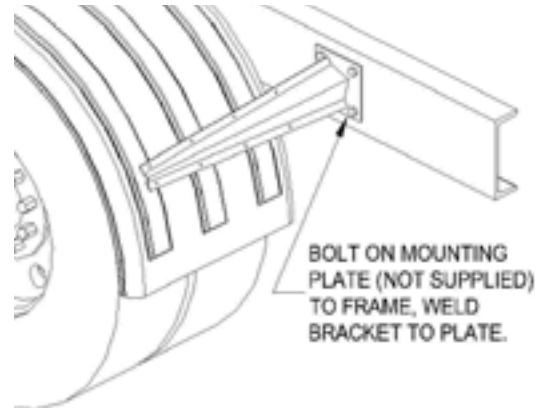

Figure 6
- B. For weld on brackets, you can bolt a plate (not supplied) to the frame and weld to that plate or just weld the brackets right to the frame if preferred. **Check your owners' manual before welding directly to the frame. Most manufacturers suggest that you do not weld anything directly to the frame.** Make sure the brackets are aligned to the fender prior to welding. Plate should be a minimum of $\frac{1}{4}$ " thick steel. See Figure 6.